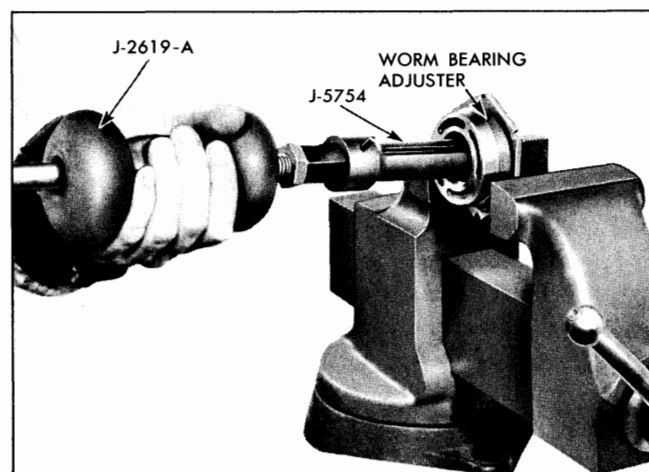

Fig. 9-37 Removing Bearing Cup from Worm Bearing Adjuster
1. Remove lower cup from worm bearing adjuster (Fig. 9-37) using tool J-5754 and J-2619B slide hammer.